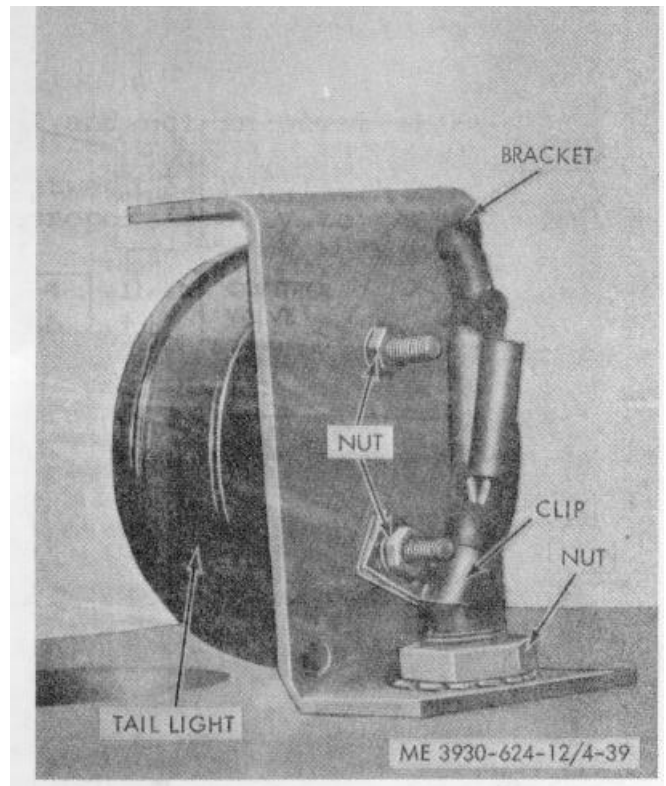

Figure 4-39. Taillight assembly.
(2) To remove the stop and taillight, tag and disconnect the electrical leads. Remove the nut and washer (fig. 4-39) securing the light to the bracket; remove the taillight.
(1) To install the headlight lamp, remove the rubber seal that holds the sealed lamp assembly into the body. Remove and disconnect the sealed lamp. Reverse the procedure to install a new lamp.
(2) To remove the tail-lamp, remove the retaining ring (fig. 4-39) and lens from the body. Push in on the lamp and give it a one-quarter turn counterclockwise to remove it. Reverse the procedure to install a new lamp.